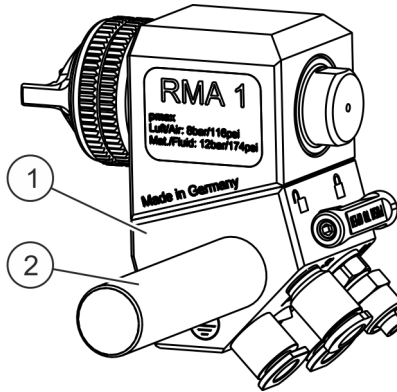

Fig. 3: Installing the automatic spray gun
To change the installation position of the automatic spray gun, the retaining bolt (Fig. 3/2) can be screwed into the adapter (Fig. 3/1) from the other side.
1. ➡ Fasten the adapter (Fig. 3/1) with the retaining bolt (Fig. 3/2) to a suitable construction.